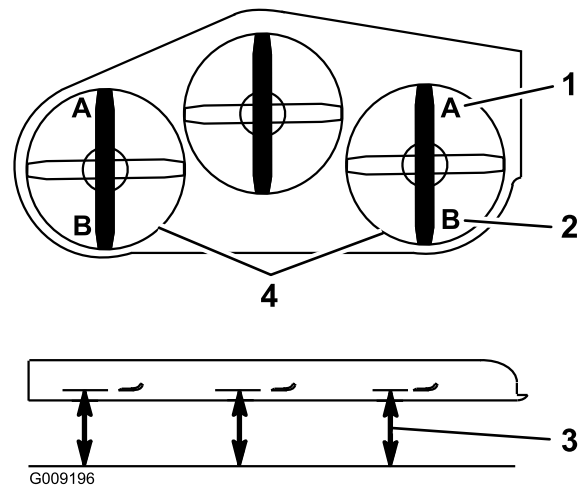

Figure 86
9. On both sides of the deck, measure from the level surface to the front tip of the blade (Position A) as shown in Figure 86.
16. On both sides of the deck, measure from the level surface to the back tip of the blade (position B) as shown in Figure 86.